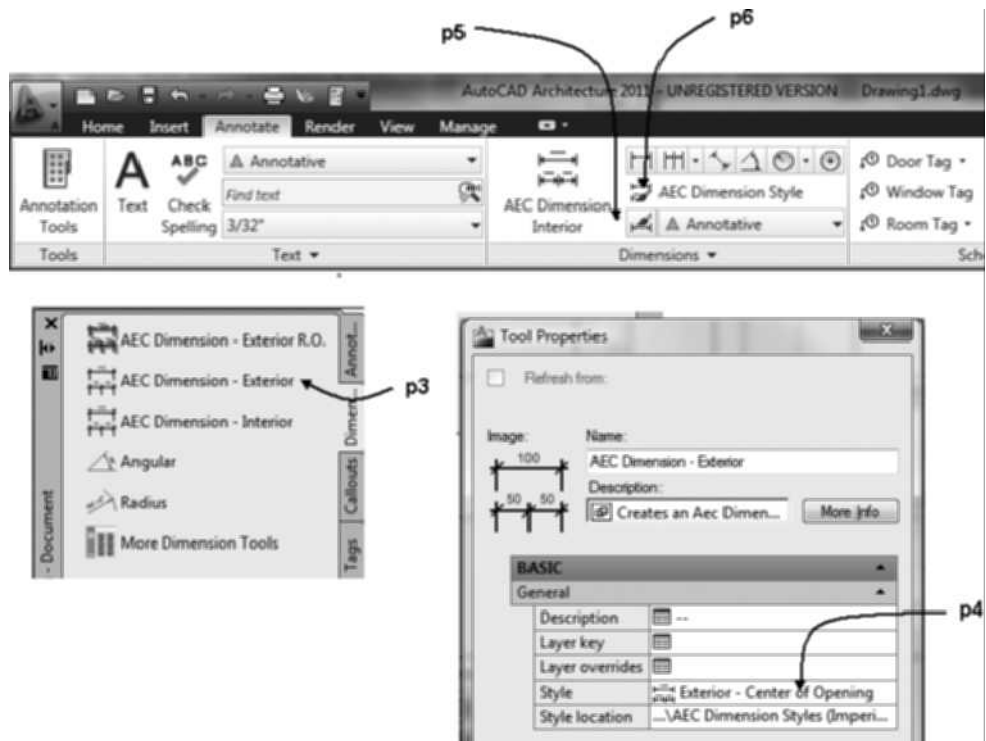

FIGURE 11.9 AEC Dimension style of palette dimension tools
8. Right-click the **AEC Dimension – Exterior** dimension of the Dimensions palette shown at **p3** in Figure 11.9, choose Properties from the shortcut menu to open the Tool Properties palette.
9. The AEC Dimension – Exterior tool applies the Exterior – Center of Opening AEC dimension style as shown at **p4** as shown in Figure 11.9.
11. Verify the Annotate tab is current. Choose the flyout at **p5** as shown in Figure 11.9 to view the three available AEC Dimension tools.
12. Click at **p6** as shown in Figure 11.9 to open the Style Manager to view the AEC Dimension Styles of the drawing.